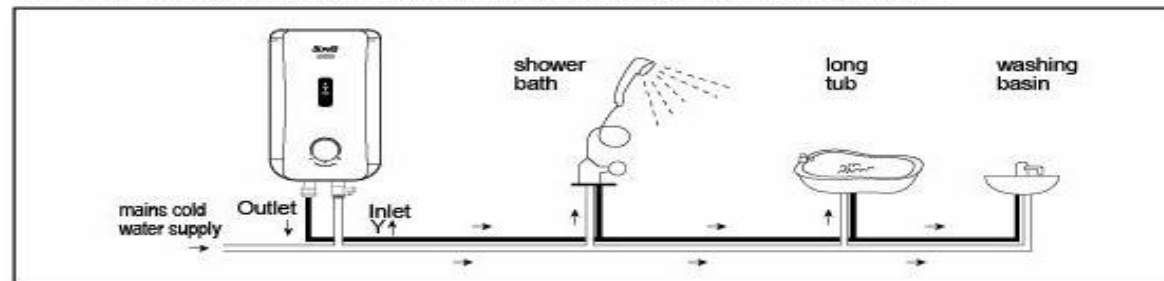

Fig. 8 - Multi-point Connection
4.19 Connect heater outlet to more than one faucet point as shower in fig. 8